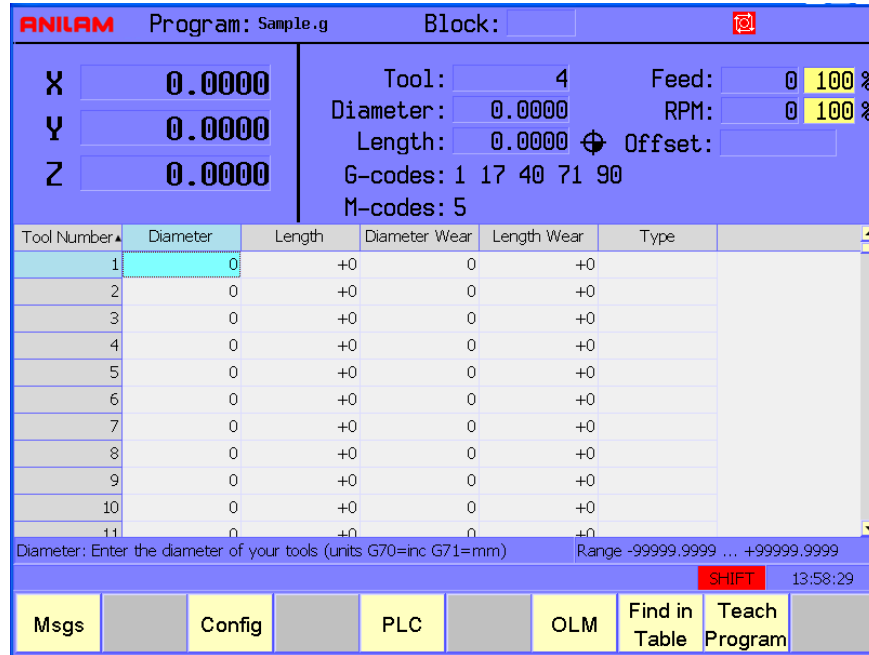

Figure 9-2, Shift Screen from Tool Page
Other functions related to the Tool Page may be accessed using the **SHIFT** key. These functions are described in this section. Press the **SHIFT** key to redisplay the Tool Shift screen. Refer to Figure 9-2, Shift Screen from Tool Page.
3. Press the **SHIFT** key on the keyboard to display the Shift screen from Tool Page (refer to **Figure 9-2**). The **SHIFT Message (F1)** functions are described in "Section 3, Messages \(Msgs\) \(SHIFT + F1\)." Press **SHIFT** again to return to the Tool Page.
Press **SHIFT** while in the Tool Page to activate the secondary soft key functions (refer to Figure 9-2, Shift Screen from Tool Page). Refer to **Table 9-2**.